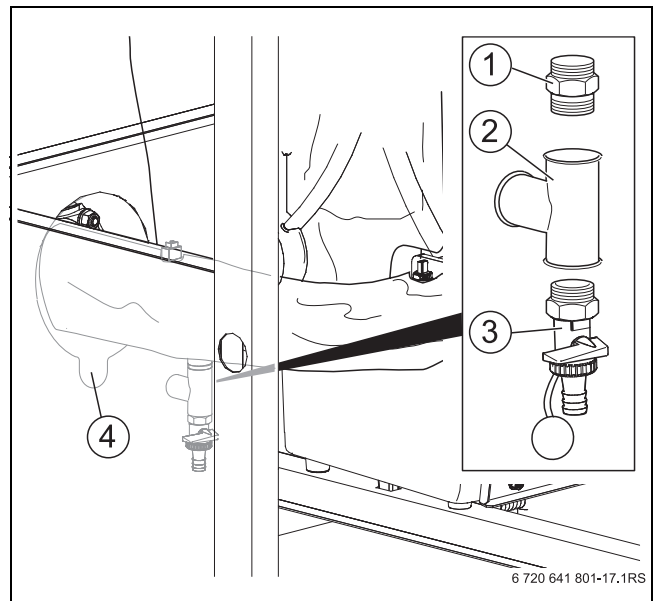

Fig. 17 Expansion vessel connection
To safeguard single boilers, an expansion vessel (accessory) on the return pipe can be adapted in accordance with EN 12828. For this purpose a tee and double nipple (→ Fig. 17, [2] and [1], page 18) must be fitted (on site) to the return pipe.
- Remove the drain valve (→ Fig. 17, [3], page 18) on the return pipe.